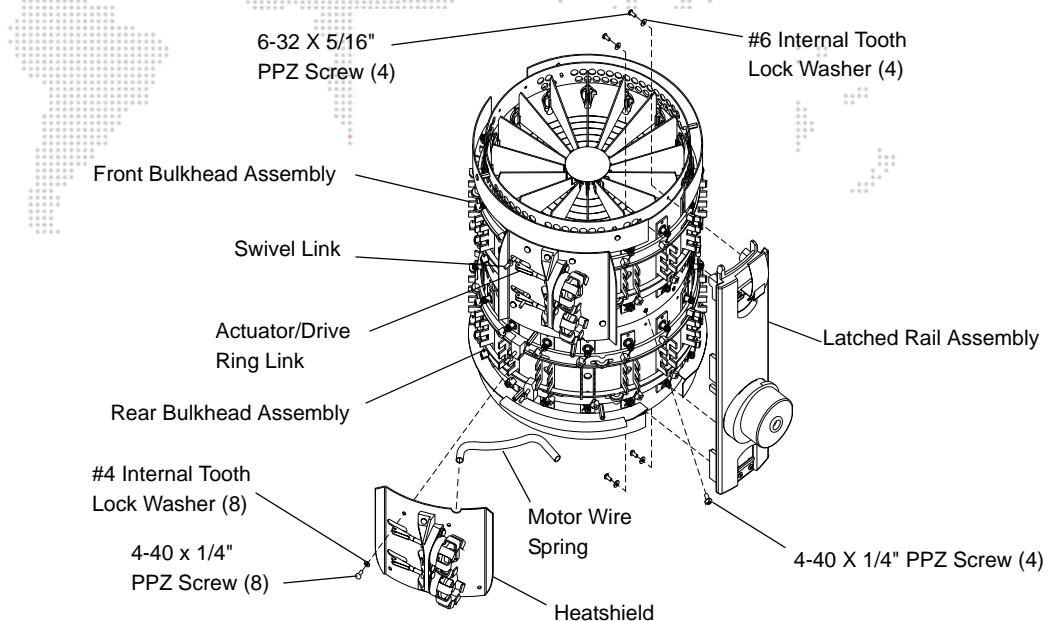

Figure 2-18: Linear Actuator Motor and Latched Rail Assemblies Replacement
- a. At linear actuator motor assemblies, using #2 slotted screwdriver, disconnect actuator/drive ring links from swivel links on drive rings. Figure 2-18.